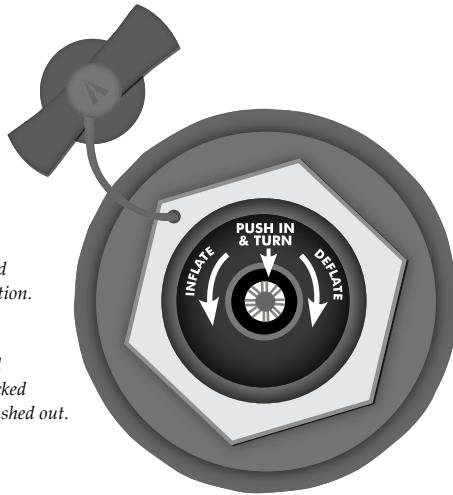

Figure 1. Inflate/Deflate Spring Valve
1. Partially inflate chamber 1 until the kayak begins to fill out or appears to be half way inflated then close cap. Check to be sure the valve is in the inflate position (*See Figure 1*).
Use either a bellows style foot pump or two-way hand pump to inflate to your kayak. Be sure that the fitting on the pump hose fits snug in the valve on the kayak. **NEVER USE COMPRESSORS, CO₂, OR COMPRESSED AIR AS THEY MAY DAMAGE YOUR KAYAK.** The main chambers use high-end military style, plunger valves (See Figure 1).
2. Push stems inward and rotate to deflate position (See Figure 1).